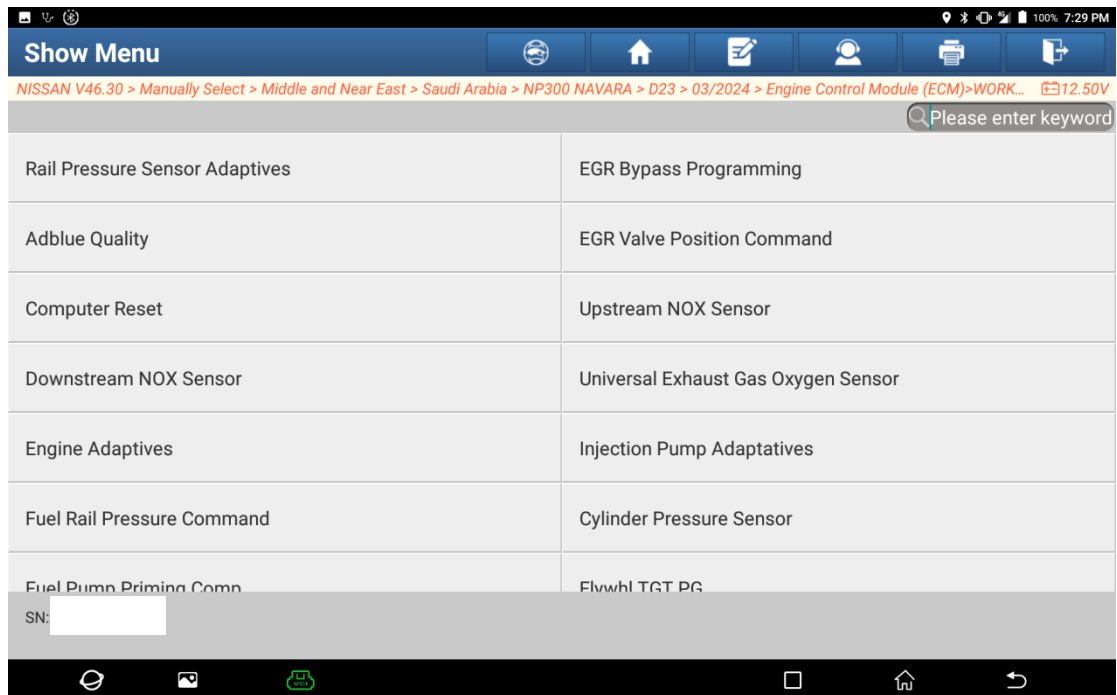

Figure 11
6. Choose [WORK SUPPORT] to enter the [WORK SUPPORT] menu interface (Figure 11).